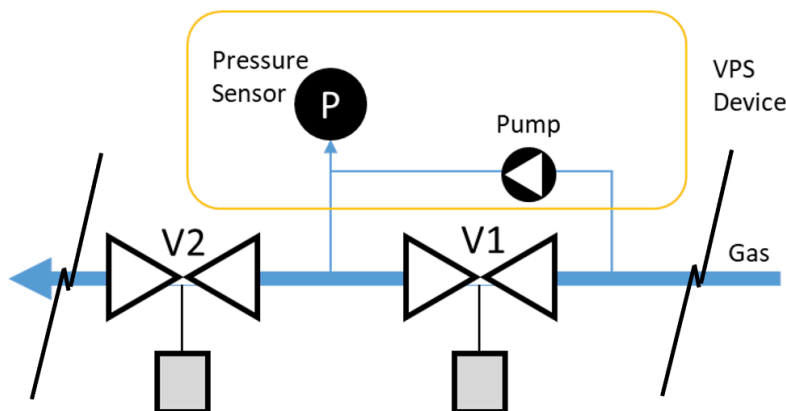

Figure 4: VPS-2 Gas Train
**VPS-2:** An alternative leak detection method is to use an approved external device instead of the flame safeguard itself. The VPS device has one connection to the gas line upstream of V1 and a second connection to a port found between the two valves V1 and V2, shown in Figure 4. When the boiler is ready to fire, the boiler sends a signal to the VPS device. The VPS then uses an internal pump to force gas between the two valves, increasing the pressure between them. If the VPS device determines that the pressure setpoint was reached between the two valves within a set time period, it sends a signal back to the boiler that the unit is safe to startup. If the VPS cannot build up the pressure between the two valves within that set time, indicating a leak in either V1 or V2, it will not allow the boiler to start. Without a gas vent line, the possibility of a gas leak to the atmosphere is reduced. VPS is environmentally friendly. Since there is no gas line, a V1 leak does not produce gas accumulation elsewhere.